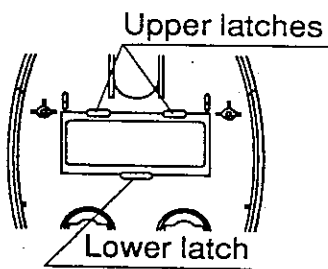

Fig. 12
- Step 2** See Figs. 12 and 13. Set slit of LCD cover (U3-1171) into top case latches. Press LCD cover upward, then hook lower latch to slit on LCD cover.